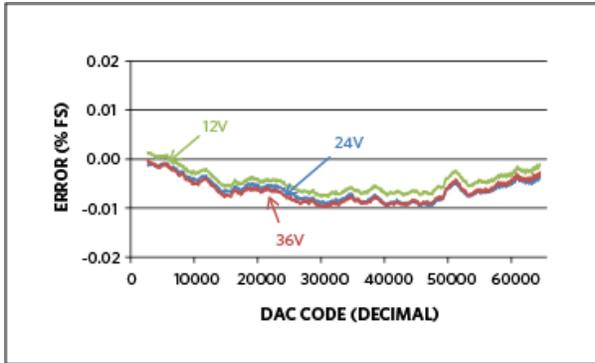

Figure 3. Transmitter error at 25°C. Data for the MAX5216 DAC.
A 4–20mA loop-powered transmitter evaluation (EV) kit, the MAX5216LPT, was built and characterized with a 1000ft 22-gauge shielded communication cable and load resistor of 249 Ω \pm 0.1%. The loop current was measured with an Agilent® HP3458A DVM as the voltage drop across that load resistor. The characterization data from the MAX5216 DAC are presented in **Figures 3 to 9**. Refer to the MAX5216LPT EV kit data sheet for more information about components and board layout.